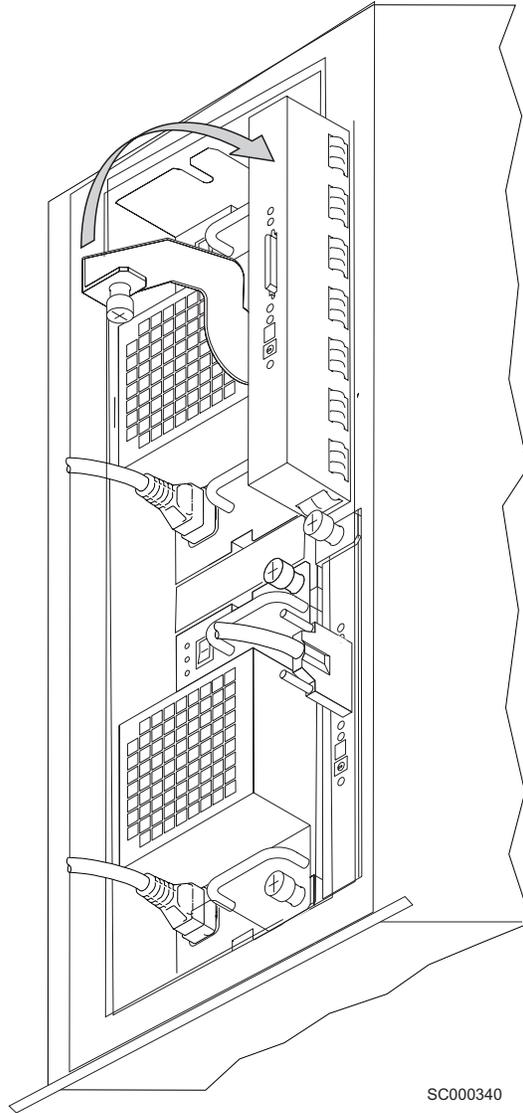

Figure 28. Closing the lever on the card assembly
- b. Push the lever until it is fully closed to plug the card assembly into the 2104 Model TS4, as Figure 28 shows.